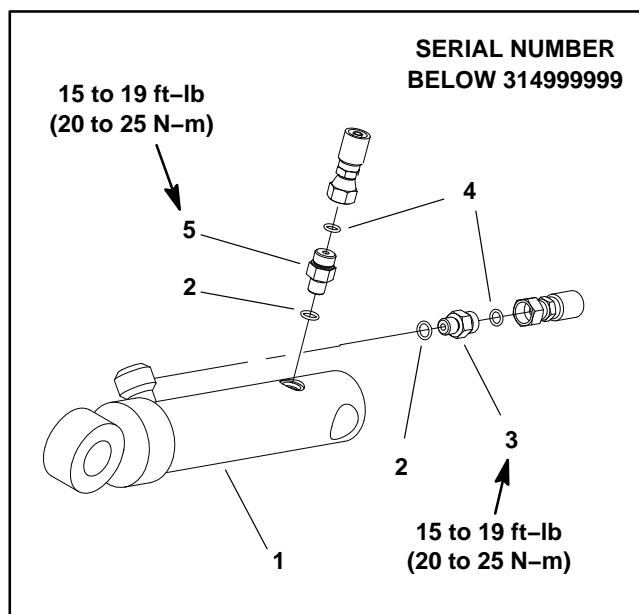

Figure 152
6. Remove one retaining ring (item 8) and washer (item 7) from the cylinder shaft (item 6) that secures lift cylinder barrel end to machine frame. Pull shaft from the lift cylinder and frame. Locate and retrieve second washer.
7. Remove shoulder bolt (item 4) and pivot pin (item 2) that secure lift cylinder rod end to lift shaft.
NOTE: On machines with serial number below 314999999, the fitting on barrel end of lift cylinder is an orifice fitting that is different than fitting on rod end of cylinder (shown in Fig. 152). Machines with serial number above 315000000 included two (2) identical fittings.
9. If necessary, remove hydraulic fittings from lift cylinder (Fig. 152). Remove and discard O-rings from fittings.